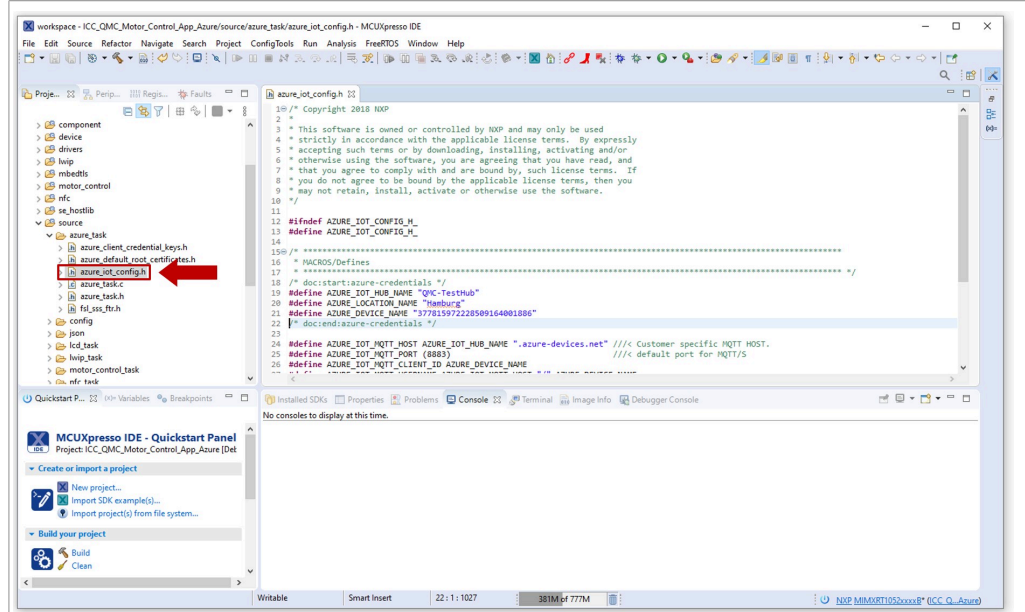

Figure 58. Find `azure_iot_config.h` file
- 1. Go to the project explorer and open the `azure_iot_config.h`, which can be found in `source\azure_task\` folder as shown in Figure 58: